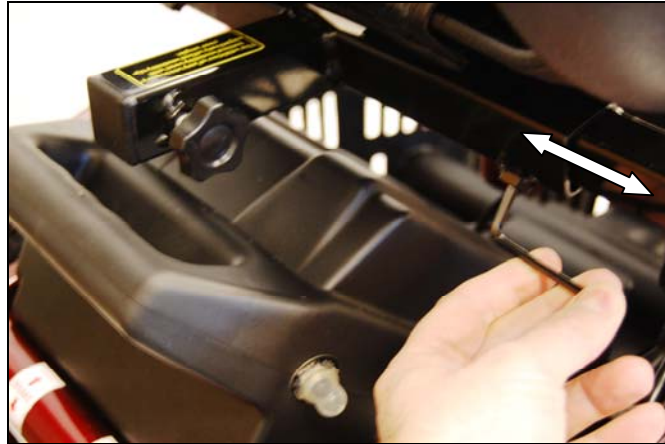

Figure 9
1. Loosen the adjustment screw at the rear of the seat with a 4mm Allen wrench. See figure 9.